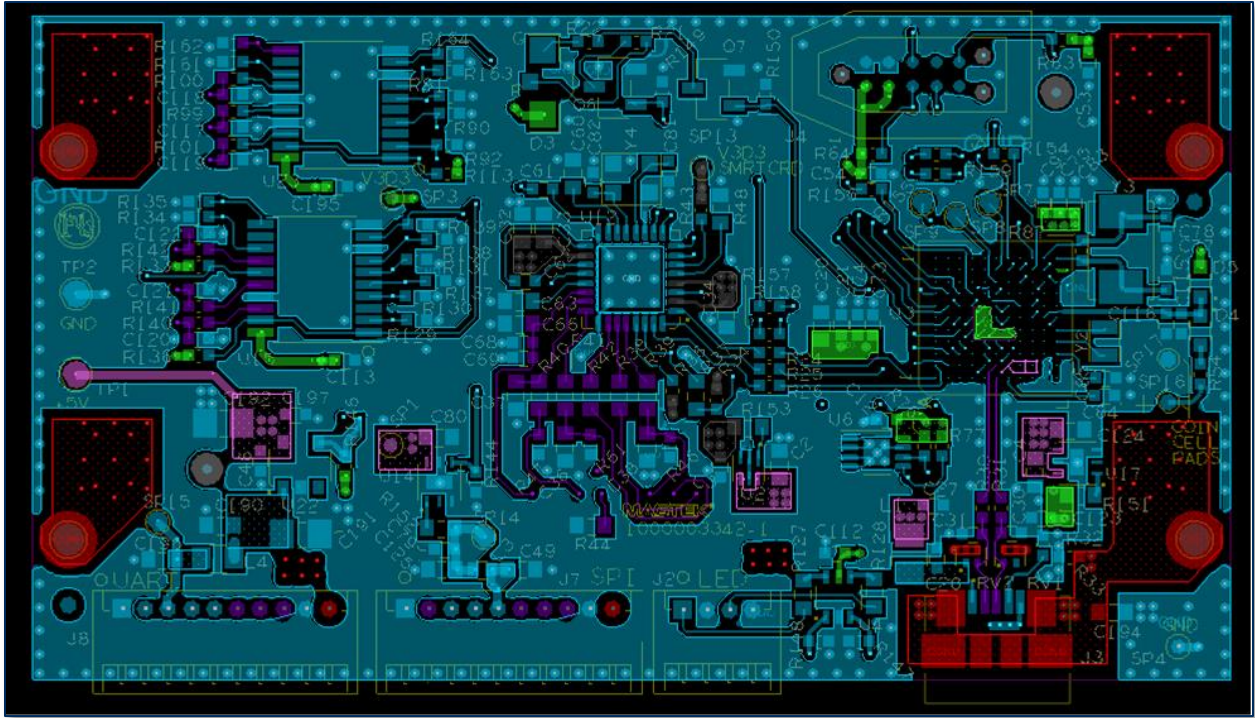

Figure 2-1 – mDynamo Chassis Ground Points
Figure 2-1 shows red highlights on all points on mDynamo that share a common earth ground plane:
- If the solution design does not provide earth ground to the shield of **USB Port [J3]**, the solution design should connect one or more of the other points in **Figure 2-1** to a common chassis ground. Ideally the chosen ground would be earth ground, because only an earth ground connection provides ESD protection.
- After deciding which points will be grounded, make sure none of the remaining ground points in **Figure 2-1** are connected to a different ground. For example, carefully trace from Pin 10 of the auxiliary ports through any connected devices to make sure they do not lead to different grounds.